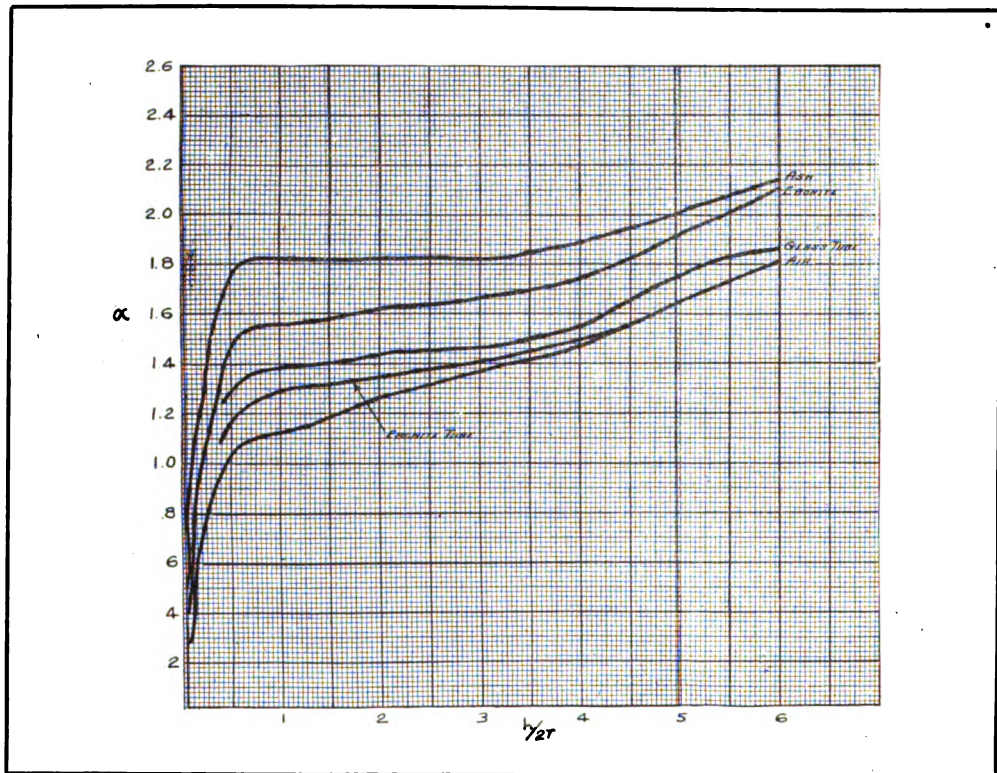

Fig. 20
To facilitate interpolation of values, the curves of Figure 20 have been drawn. In order to find the value of α for any coil, we calculate $h/2r$, that is, the ratio of the length of the coil to its diameter, and find the value of α corresponding to the ratio, and to the type of core employed. Formula (32) can then be directly employed.